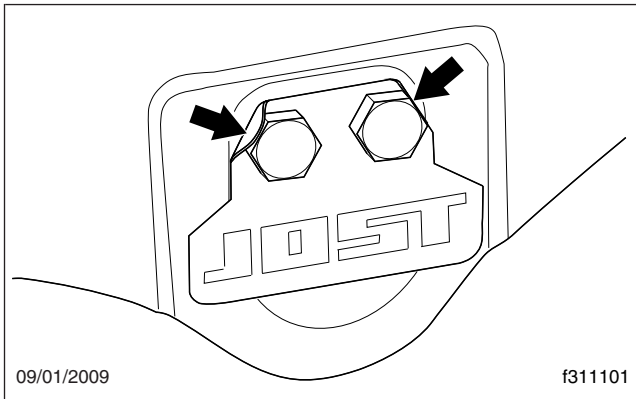

Fig. 3, Bracket Pin Bolt Locking Tabs
4. Inspect the bracket pin bolts. Make sure the locking tabs are properly securing the bolts in place. See Fig. 3.